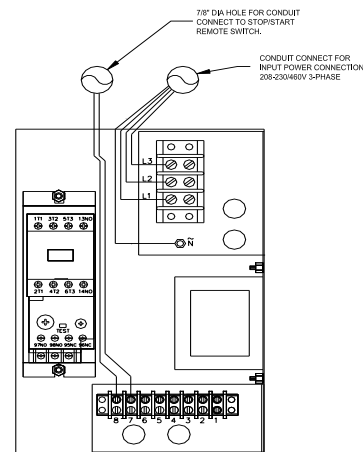

FIGURE 4
- Make connections from power supply to terminals L1, L2, and L3. Wire size should be suitable for the motor HP that was supplied for your application (5HP or 7 1/2HP). Make connections from remote start/stop switch to terminals 7 and 8 (see **Figure 4**).